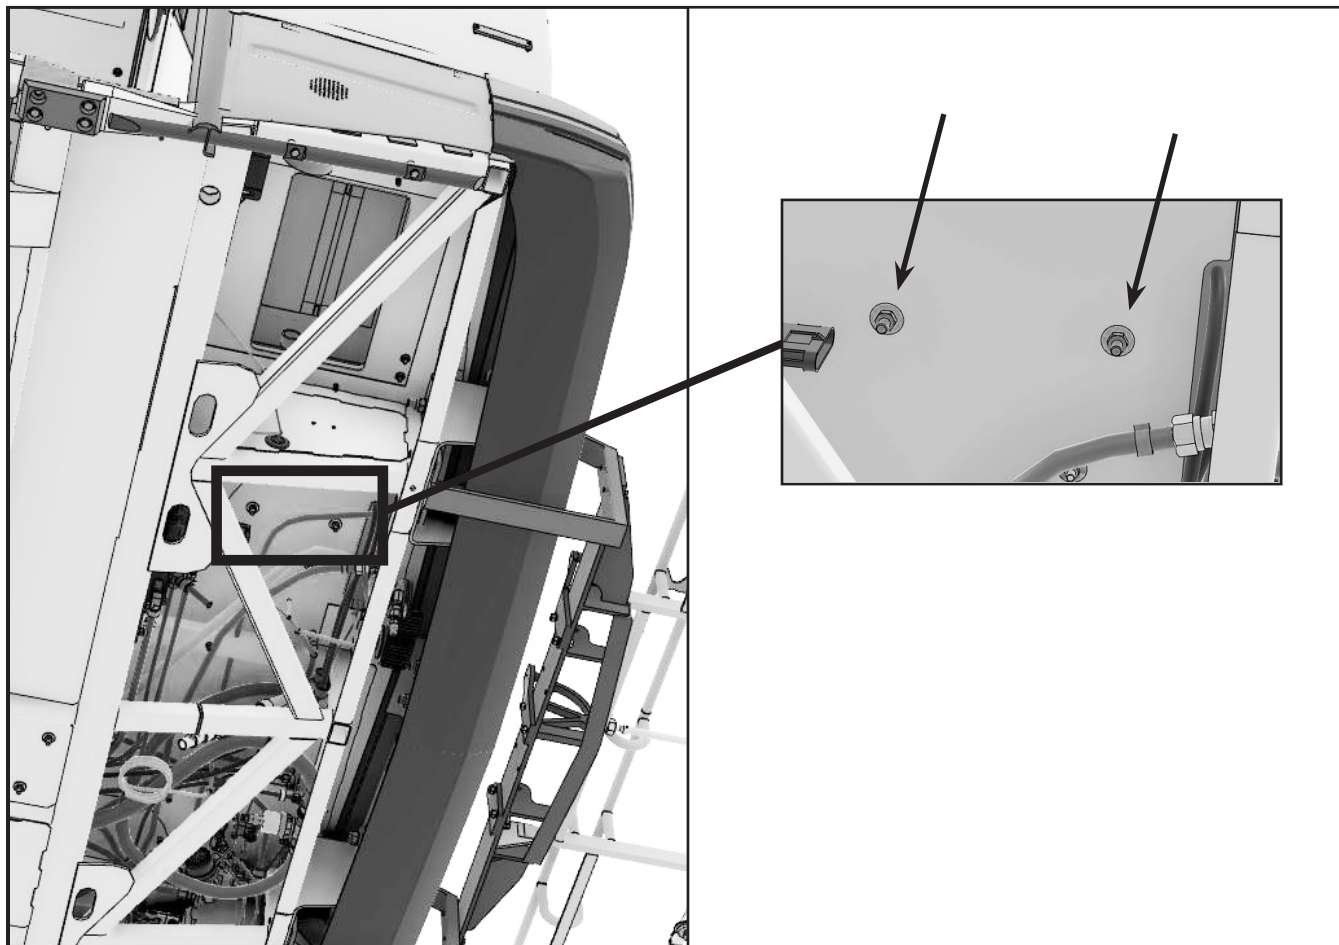

Figure 2 - Remove Lock Nuts and Washers Under the Vehicle
- 1.7. Under the vehicle, unscrew the two lock nuts (Figure 2) and remove the HPU from the vehicle and deposit on a work table. Discard lock nuts. Keep screws and washers for reinstallation.